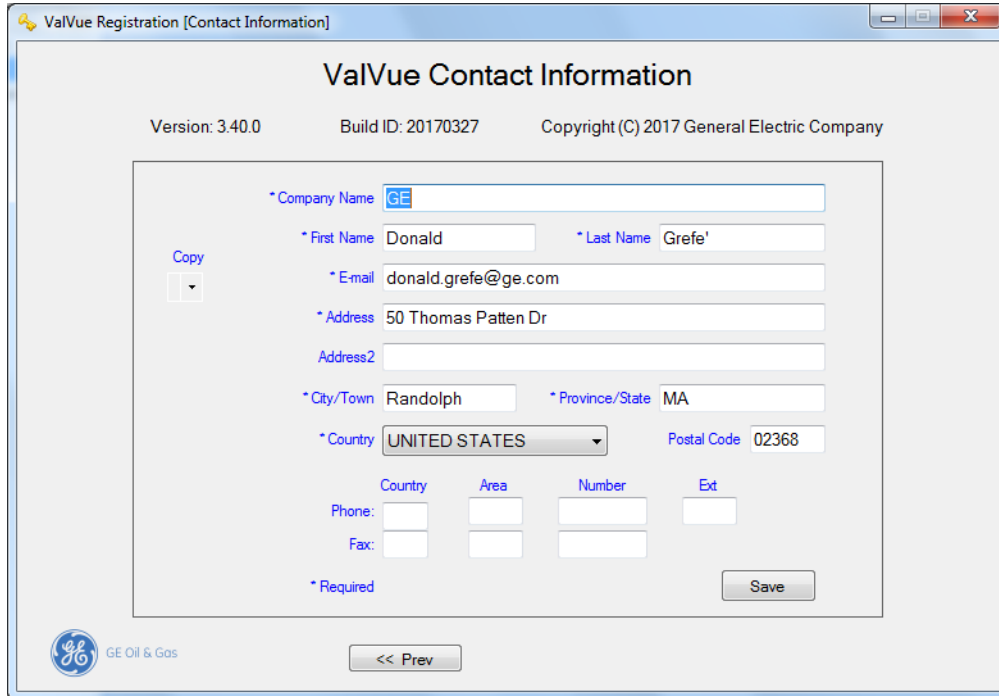

Figure 41 Contact Information
2. Click  or click **Next** and Figure 41 appears.